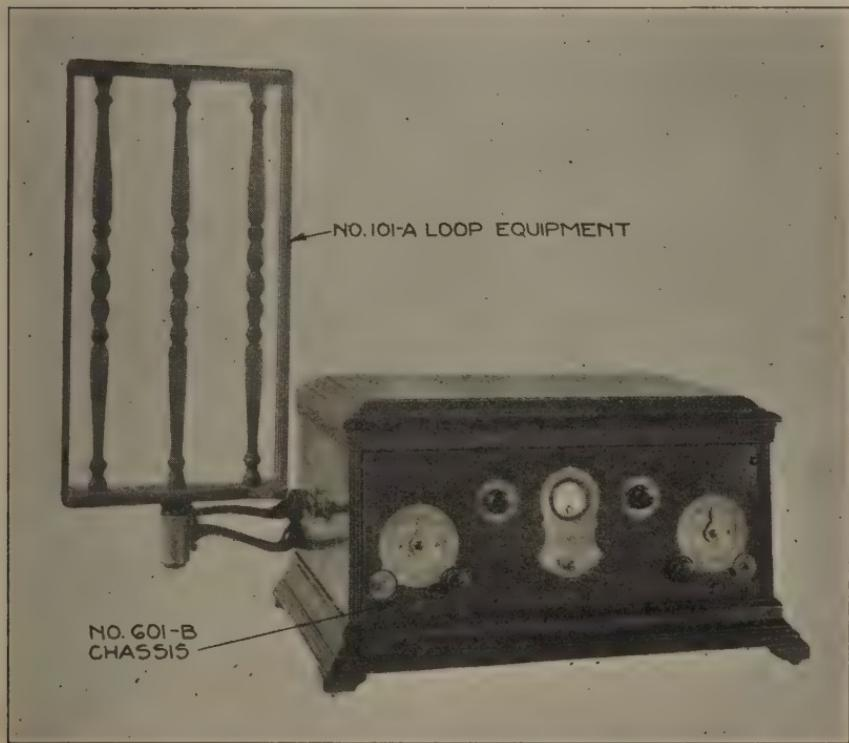
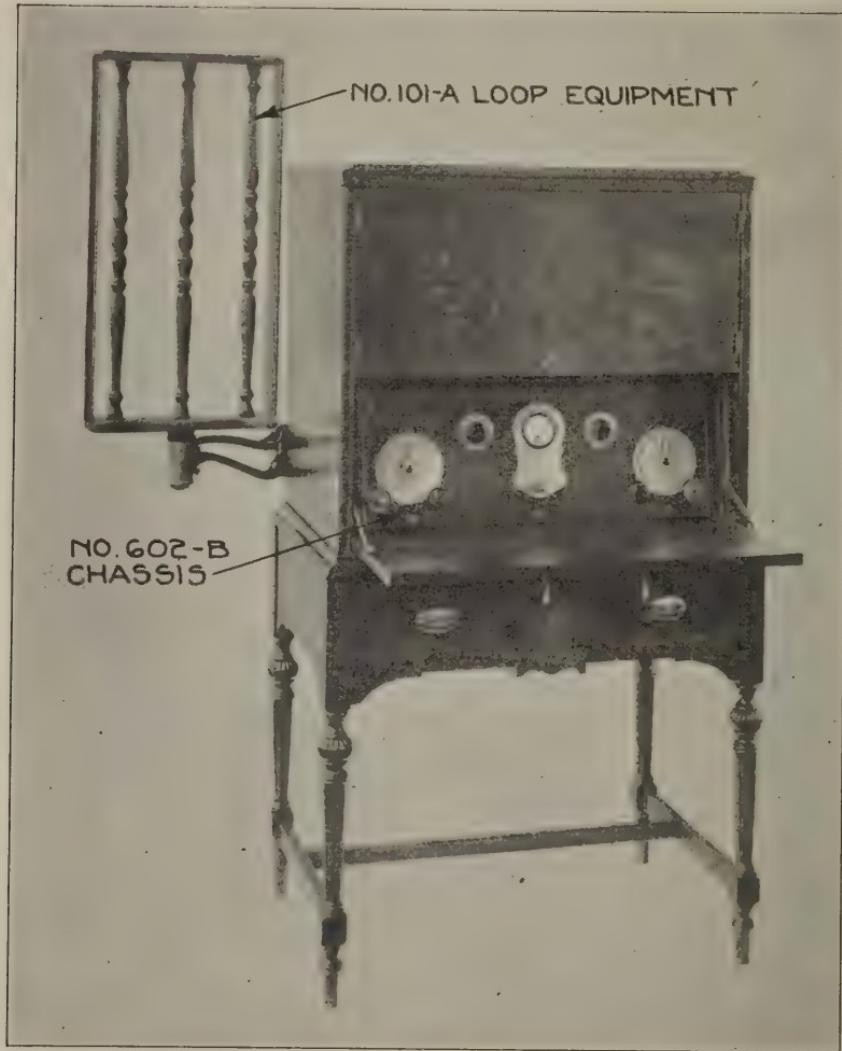

Fig. 46—Loop Type of Signal Collector applied to No. 601-B Receiver
Fig. 47—Loop Type of Signal Collector applied to No. 602-B Receiver
**Second**—After mounting the loop supporting bracket, the loop can be set in place in the socket, provided in the end of this bracket, by first threading the loop connecting cable down through the socket opening. Fig. 46 shows the loop mounted on the No. 601-B receiver while Fig. 47 shows the mounting on No. 602-B receiver.
- (b) By rotating the loop Figs. 46 or 47 to the best position for the desired volume of signal.